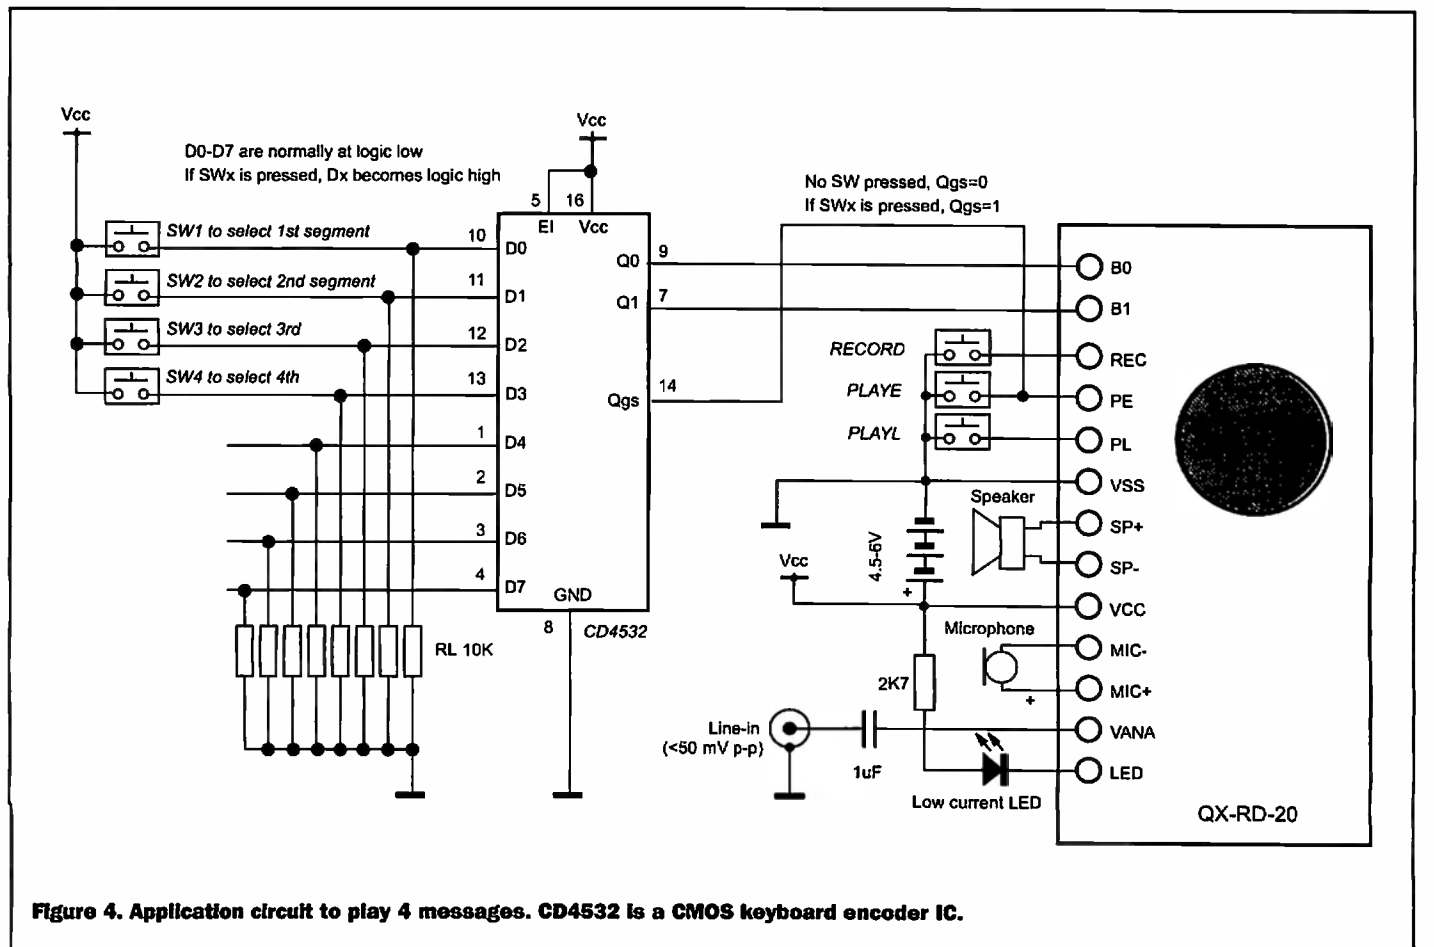

Figure 4. Application circuit to play 4 messages. CD4532 is a CMOS keyboard encoder IC.
Figure 4 shows a circuit that allows one of four sound tracks to play by pressing one of four switches. The circuit is based on a standard CMOS logic IC, CD4532 keyboard encoder. It converts 8 parallel data (D0 to D7) into a binary data on Q0, Q1 and Q2 pins. D0 through to D7 are pulled down to ground via pull-down resistors (RL). While no switch is pressed, Q0, Q1 and Q2 output zero. Qgs pin is also at low. If a segment-select switch is pressed, the corresponding line (D0 to D3) becomes high. Q0 and Q1 output a binary data, which supply the address bits for B0 and B1. While the switch is pressed, Qgs pin also goes high. When the switch is released, Qgs pin goes low. At the transition from logic high to low, the module replays the sound stored in that particular segment.